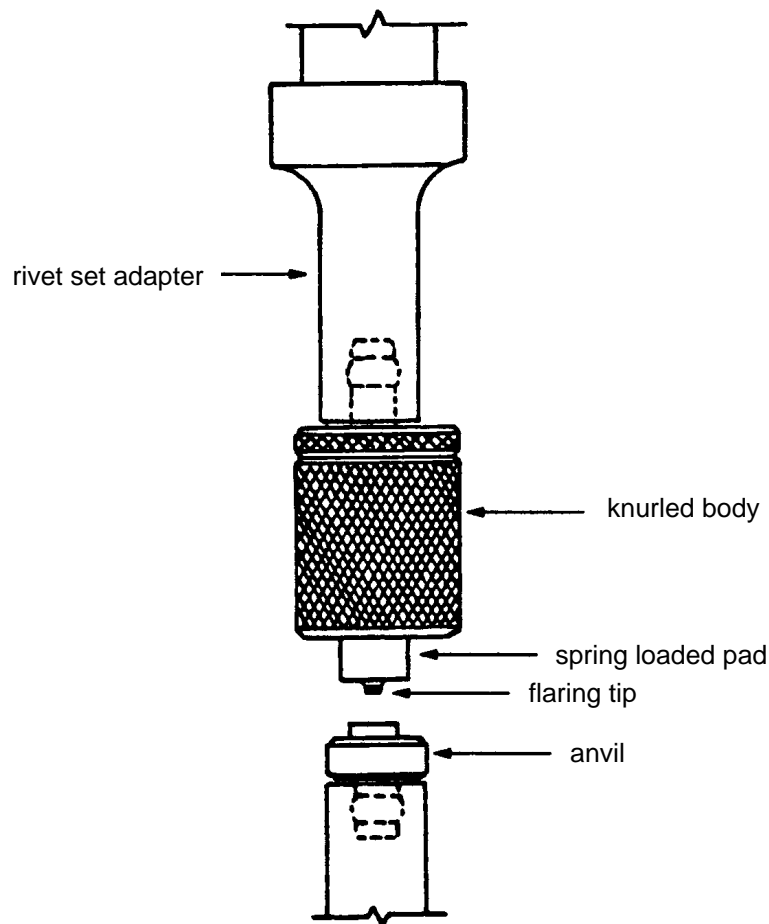

Figure 6 - CP450 (TS.423.11.00) Riveter - Single Stage Forming Die
5.3.4 Install nut plates using a CP450 (TS.423.11.00) Riveter and a single stage forming die (see Figure 6) as follows: